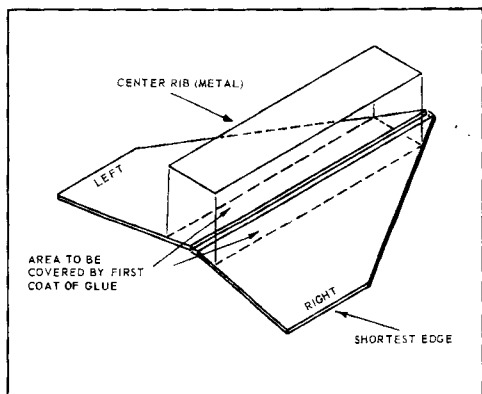

FIGURE 2
**Step 4.** Glue the pylon parts together and set aside to dry. Next, glue the wings together as shown in Figure 2. Be sure that the center rib (metal sheet) is well centered on the joint between wings. For best results, apply a coat of glue to one side of the rib and to the area on the wings where you intend to glue the rib. Let this coat dry for about 10 minutes before applying a second coat to the wood and finally gluing all 3 parts together. Put the wing assembly between two sheets of scrap paper and under several large catalogs or books so that it will dry flat and even.